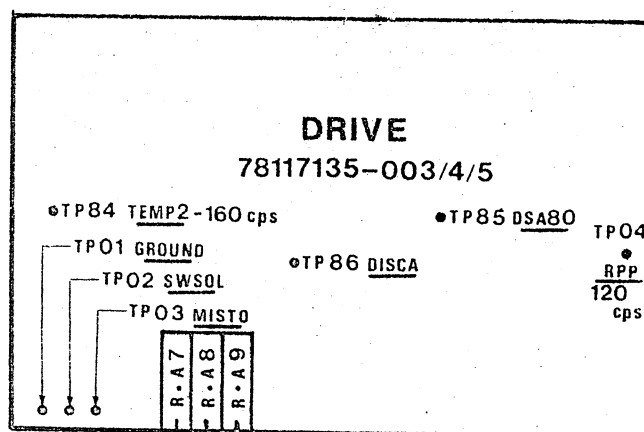

Fig. 8-4
- . Act on the potentiometer RA7 of the PWA DRIVE (fig. 8.4) to adjust the balance